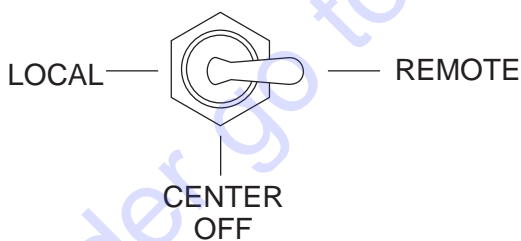

**Figure 37. Antenna Installation**
- On the top of the unit, to the right of the control box (Figure 37), hammer out the knock-out hole and install the remote antenna.
- Connect the antenna cable to the connector on the rear (Figure 37) of the control box.